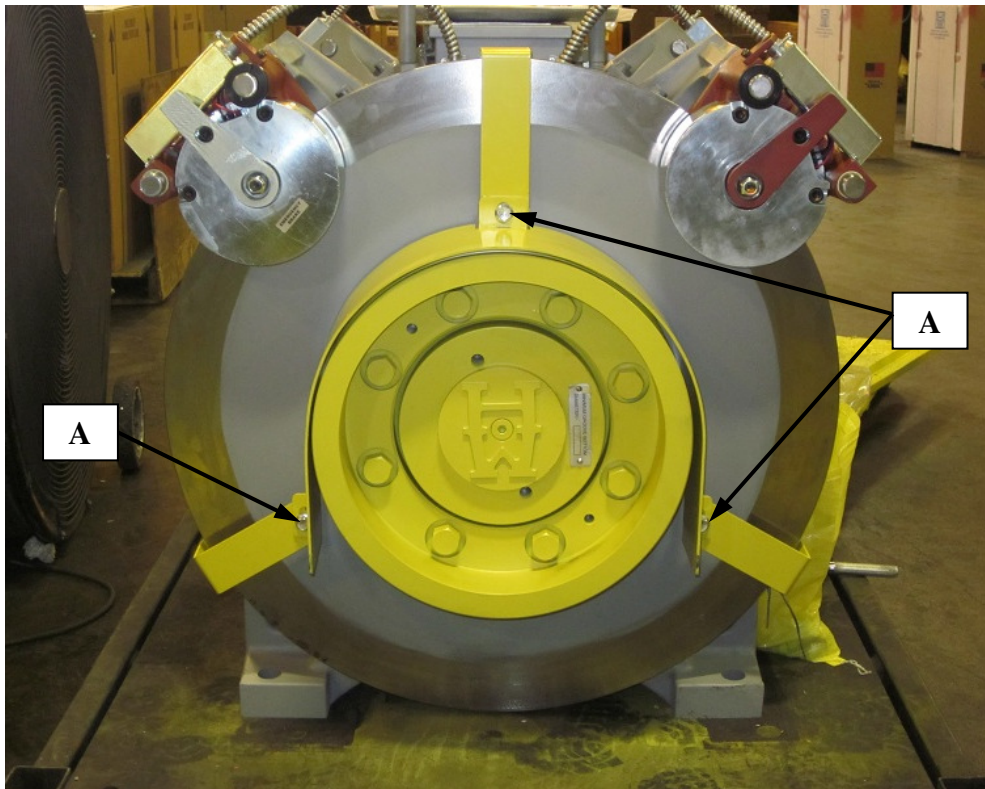

Figure 1
- Tools required - 11/16" reamer, 11/16" guide pin, can of compressed air (2) - 9/16" wrenches (or adjustable wrenches), 1-1/8" impact socket, impact driver, (2) jack bolts 1/2"-13 with 4" of usable thread, torch with a rosebud tip (or other suitable heat source to heat the sheaves for removal and installation), gloves to handle the sheaves after heating, hoist and the necessary tools to remove the machine from the mounting structure (if necessary.)
- Once the car has been suspended, and the tension has been removed from the hoist ropes, remove the traction sheave guard by removing bolts "A" and their corresponding lock nuts. Refer to Figure 1.
- Re-install the sheave guard. Refer to Figure 1.